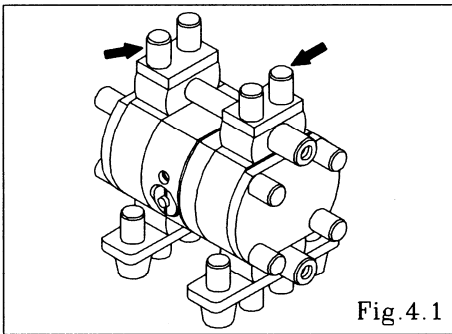

Fig. 4.1
- Remove the 8 caps from the both sides of the upright tie rod. [Fig.4.1]